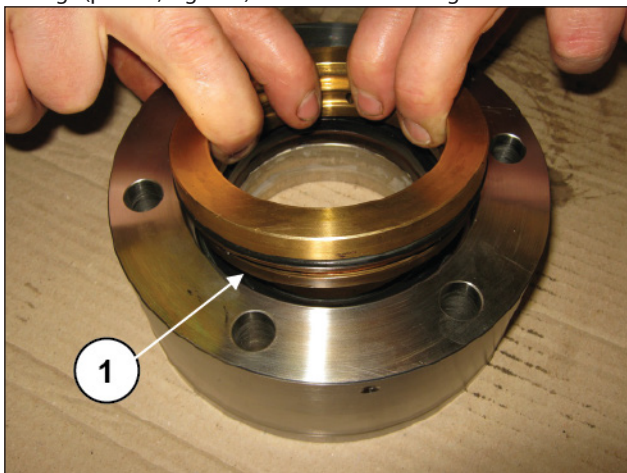
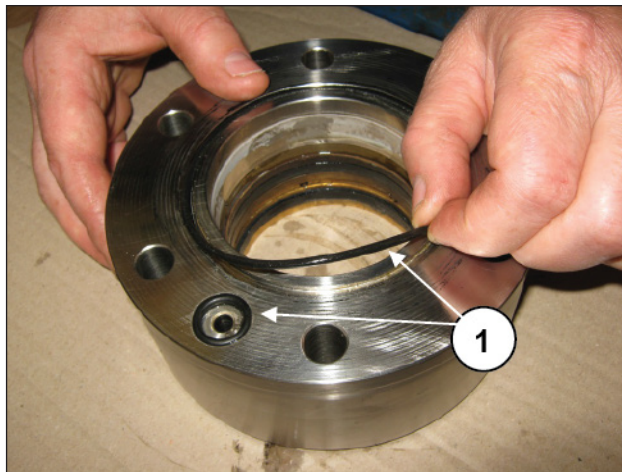

Fig. 225
Fig. 226
Install the seals support to the sleeve (pos. ①, Fig. 225), fit the O-rings (pos. ①, Fig. 226) to the sleeve mating surface.